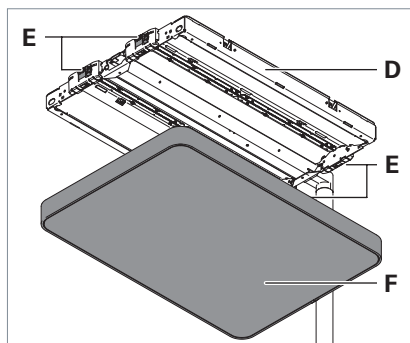

Fig. 19: Dismounting the cover frame.
- Press all four detent hooks **E** until the cover frame **F** is released and take the cover frame off the light chassis **D** moving it downward, see Fig. 19.